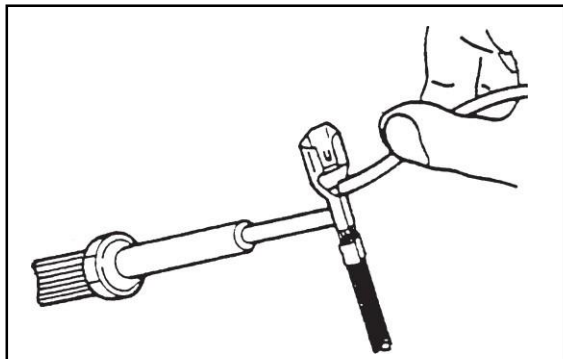

Figure 15
3. Apply solder to core wings as shown in Figure 15. Use just enough solder to obtain even solder flow through the core wings.